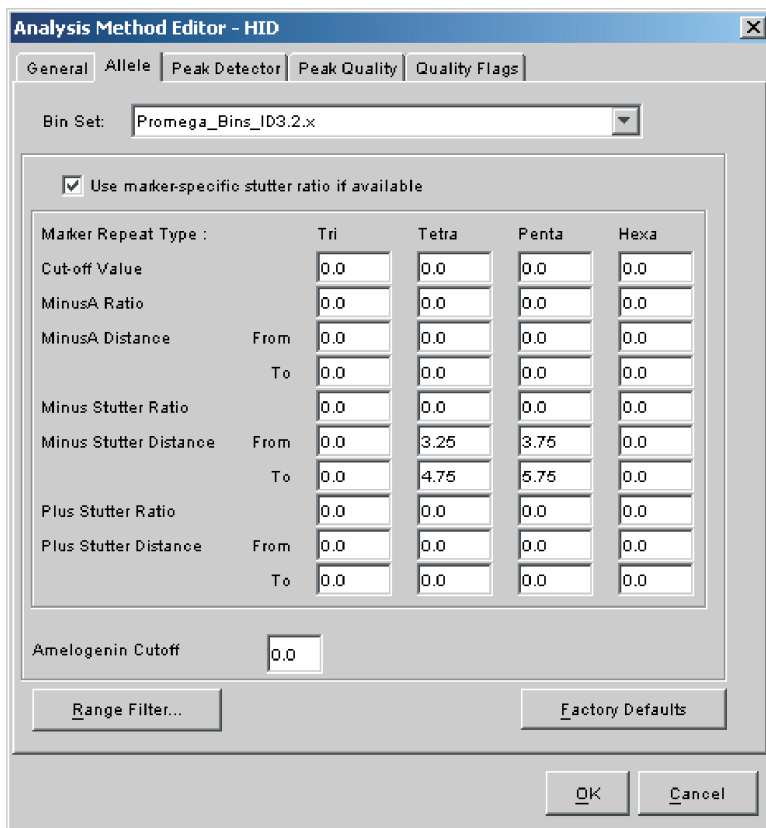

Figure 18. The GeneMapper® ID 'Allele' tab.
6. Select the 'Allele' tab (Figure 18).
9. Enter the values shown in Figure 18 for proper filtering of stutter peaks when using the PowerPlex® 16 System. For an explanation of the proper usage and effects of these settings, refer to the Applied Biosystems user bulletin titled "Installation Procedures and New Features for GeneMapper ID Software 3.2".